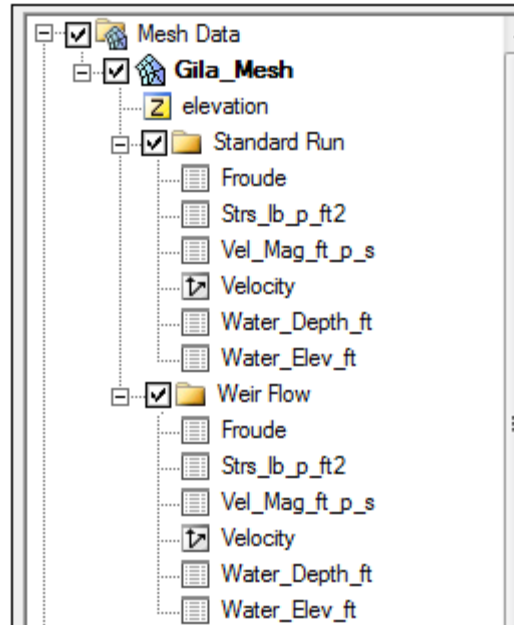

Figure 9 Mesh dataset organization
4. Drag the selected datasets below the new “ Weir Flow” folder (see Figure 9).